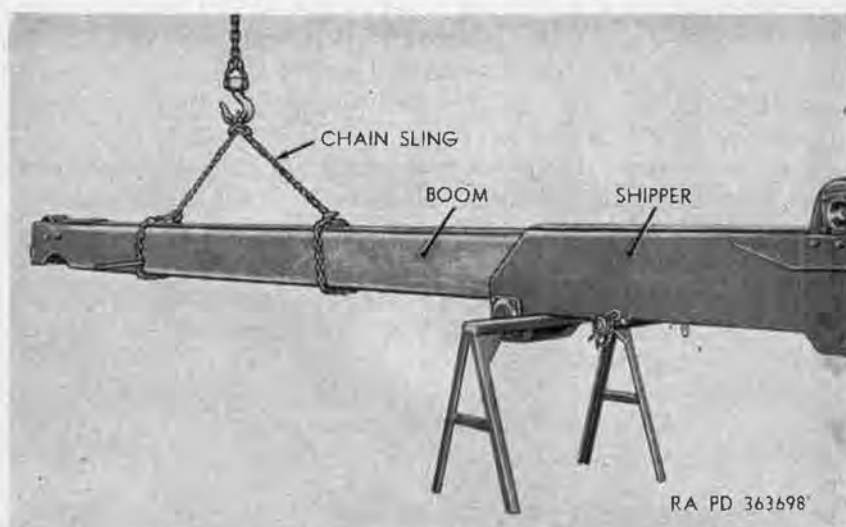

Figure 305. Removing boom from shipper M62.
- (5) Pull boom (fig. 305) from shipper only far enough to attach a chain sling, attach sling, and support with overhead hoisting equipment.
- (4) Attach chain sling (fig. 305) to boom and support boom with overhead hoisting equipment. Insert end of boom in shipper, and slide boom inside shipper as far as it will go, guiding piston rod through hole in anchor (fig. 291) at rear of shipper.